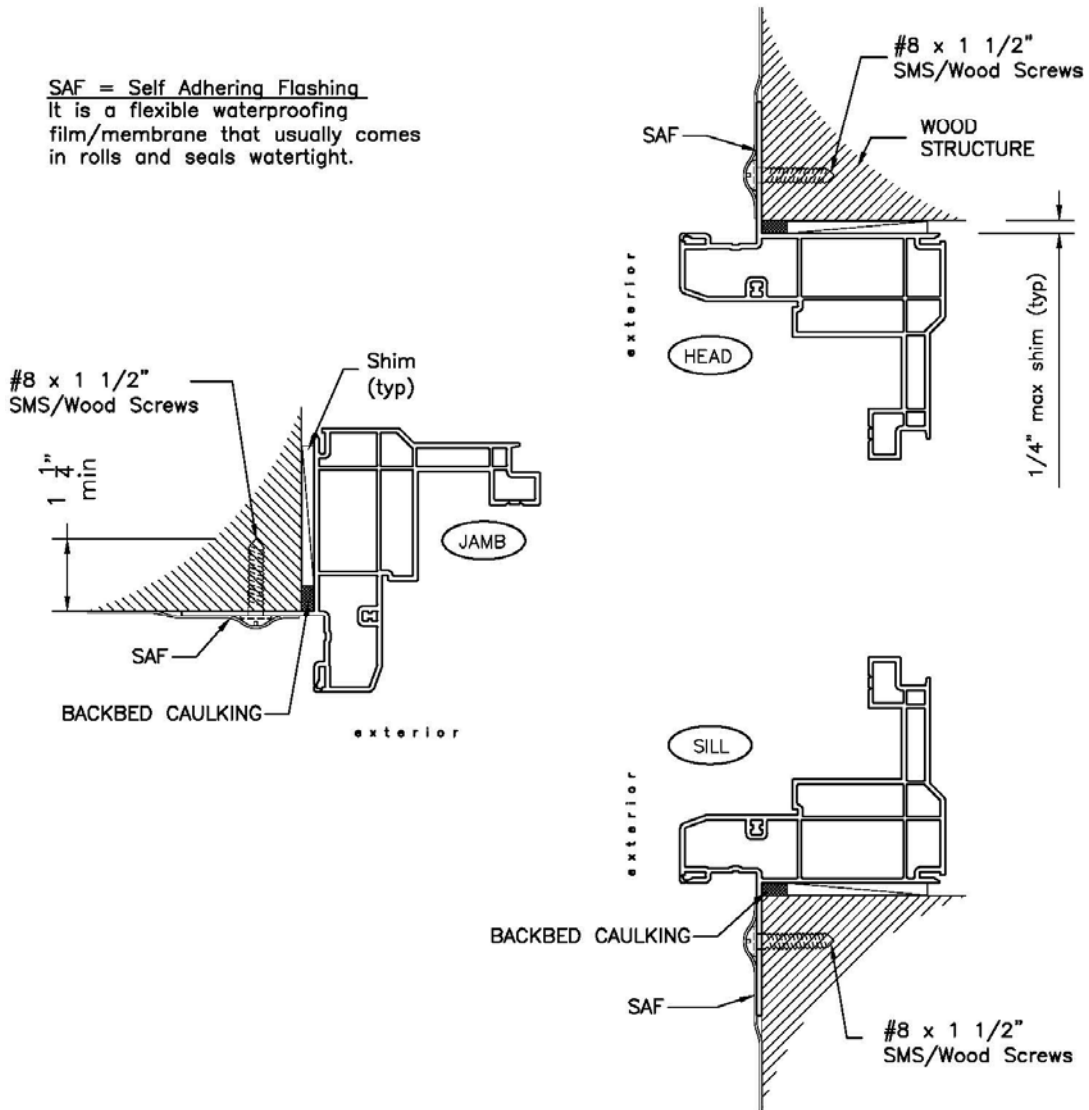

Figure 8: Installation type "D" using Fin Frame
5. Secure window using installation screws as selected from the approval documents for your specific application (see figure 8). Shim window to main structure at every installation screw location (shim space should not exceed 1/4"). You can secure the window with a few screws at first to make sure window operates correctly and is plumb, level and square. **Caution: Any window, which is forced into an opening and racked or twisted, can eventually cause glass breakage.**